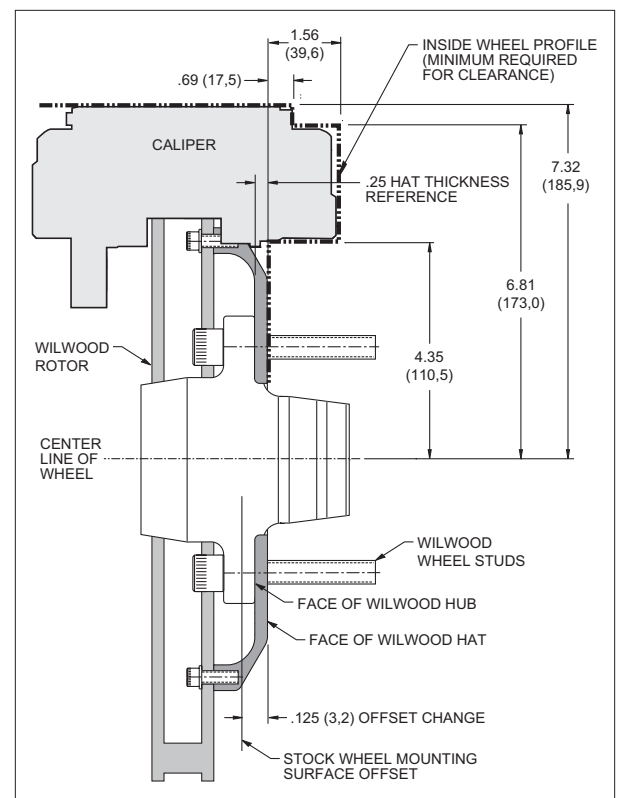

Figure 3. Wheel Clearance Diagram
**NOTE:** Installation of this kit requires spindle modifications that are best accomplished by a qualified machine shop. Please read installation instructions completely before beginning work. Review the wheel clearance diagram (Figure 3) to verify that your wheels provide adequate clearance for this brake kit. This kit will result in the wheels being moved out approximately 1/8" beyond the stock location.
- Verify your wheel clearance using using Figure 3.